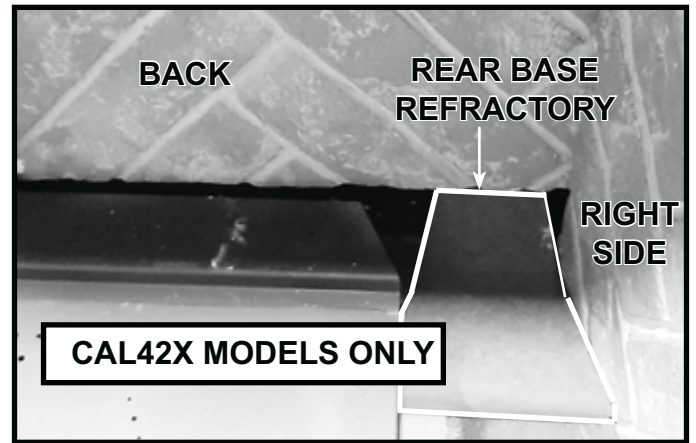

Figure 11.7 CAL42X Models Only: Rear Base Refractory Piece Installed (Right Side Shown)
7. **CAL42X Models Only:** Place the rear base refractory pieces on the left and right sides in the rear of the firebox. Push back and toward the side of the firebox as shown in Figure 11.7. The base refractory piece should contact the side and back refractory panel.